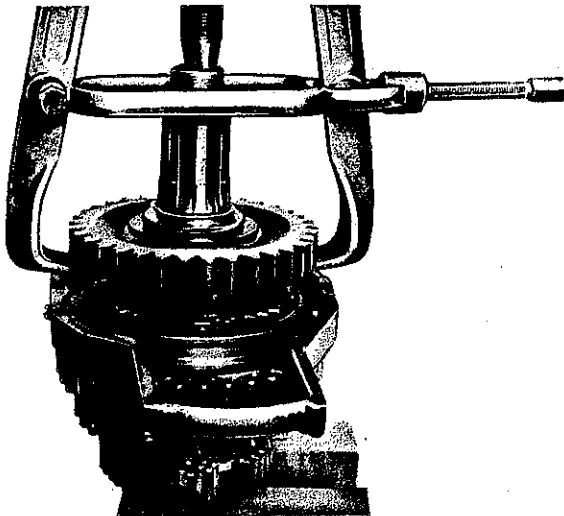

Fig. 17
4. Remove gear wheel reverse speed (428) with a 2-arm puller (Fig. 17). Remove needle cage (414). Pull-off slinding sleeve (427). Remove compression springs (406), ball pins (423) and thrust pieces (422) from synchronizer assembly (424).